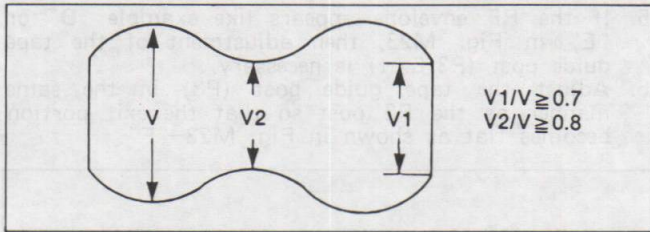

Fig. M26 Spec. of Envelope Figure
8. Set the tracking control into centre fix position and adjust for maximum RF envelope. If the RF envelope does not meet these specifications, $V1/V \geq 0.7$, $V2/V \geq 0.8$ (Refer to Fig. M26) then repeat steps 1-8 again.